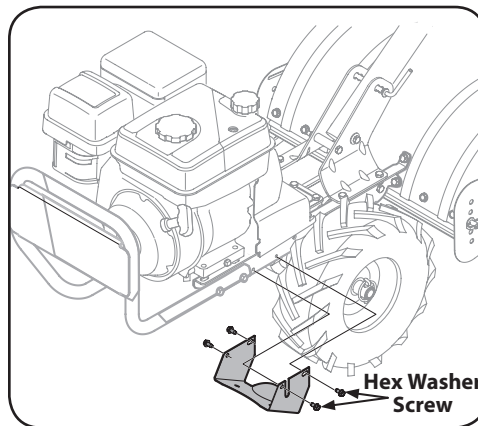

Figure 5-4
3. Remove the four ¼-20 hex washer screws that secure the pulley shield to the frame as seen in Figure 5-4, and remove the pulley shield and set aside in a safe location until reinstallation.